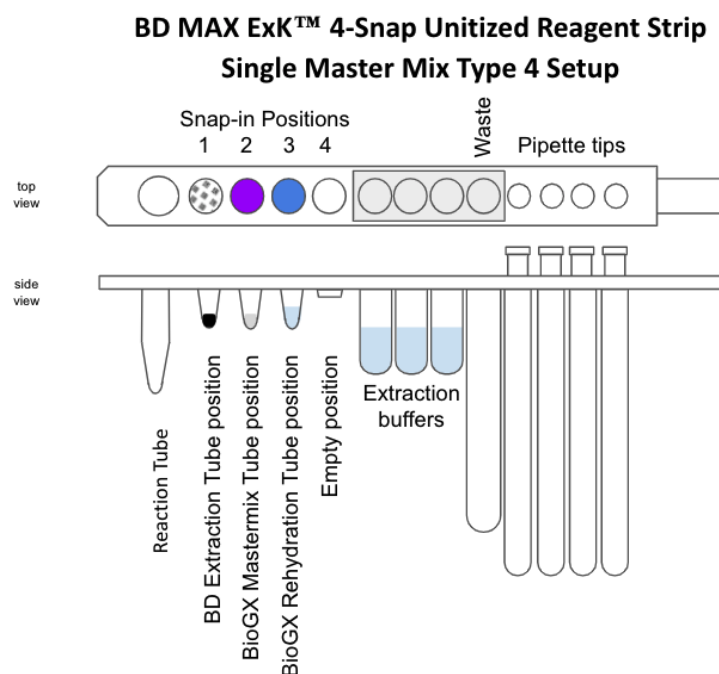

Figure 1 – Diagram of BD MAX™ ExK™ 4-snap Unitized Reagent Strip
4. Snap one BD MAX™ ExK™ DNA-2 Extraction Tube into position 1 (Snap-1) of each Unitized Reagent Strip (Figure 1).